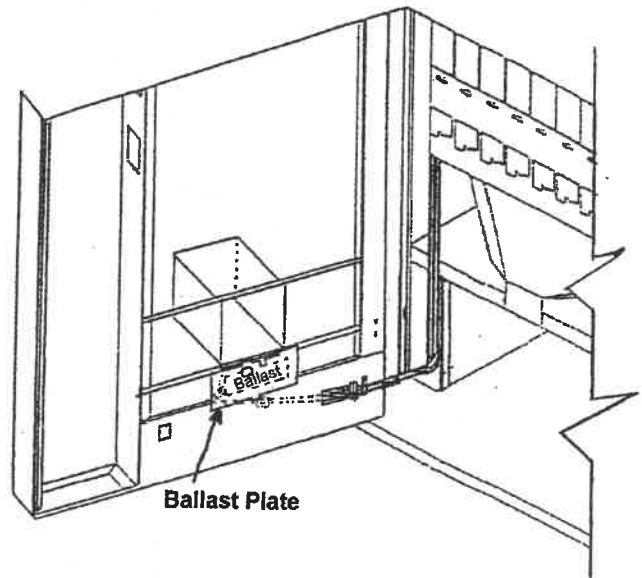

Figure 2
9. Route the lighting harness into the main door through the opening in the bottom doorframe (see figure 2).
11. Position the ballast mounting plate below the delivery box and fasten using three (3) self-drilling washer screws (901,301,64x.x1). When properly assembled, the ballast will face the sign face and the ballast wires will exit facing the cash box.